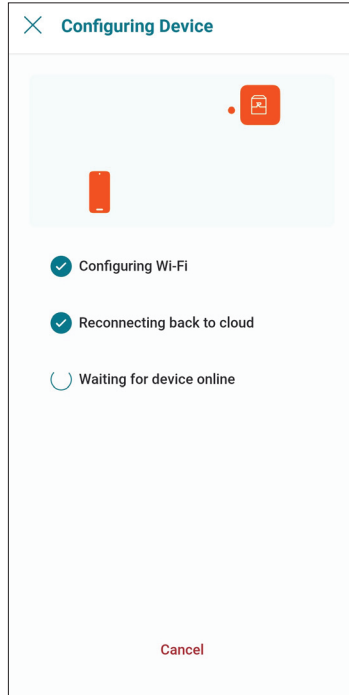

Figure 119. Configuring Device
9. Raymote app will provide the Wi-Fi credentials to your unit. This process may take a few seconds. See **Figure 119**.